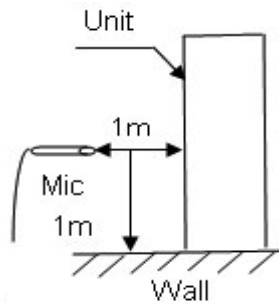

Figure 1
**6.2 Sound Pressure Level Spectrum (Measured as Figure 1)**